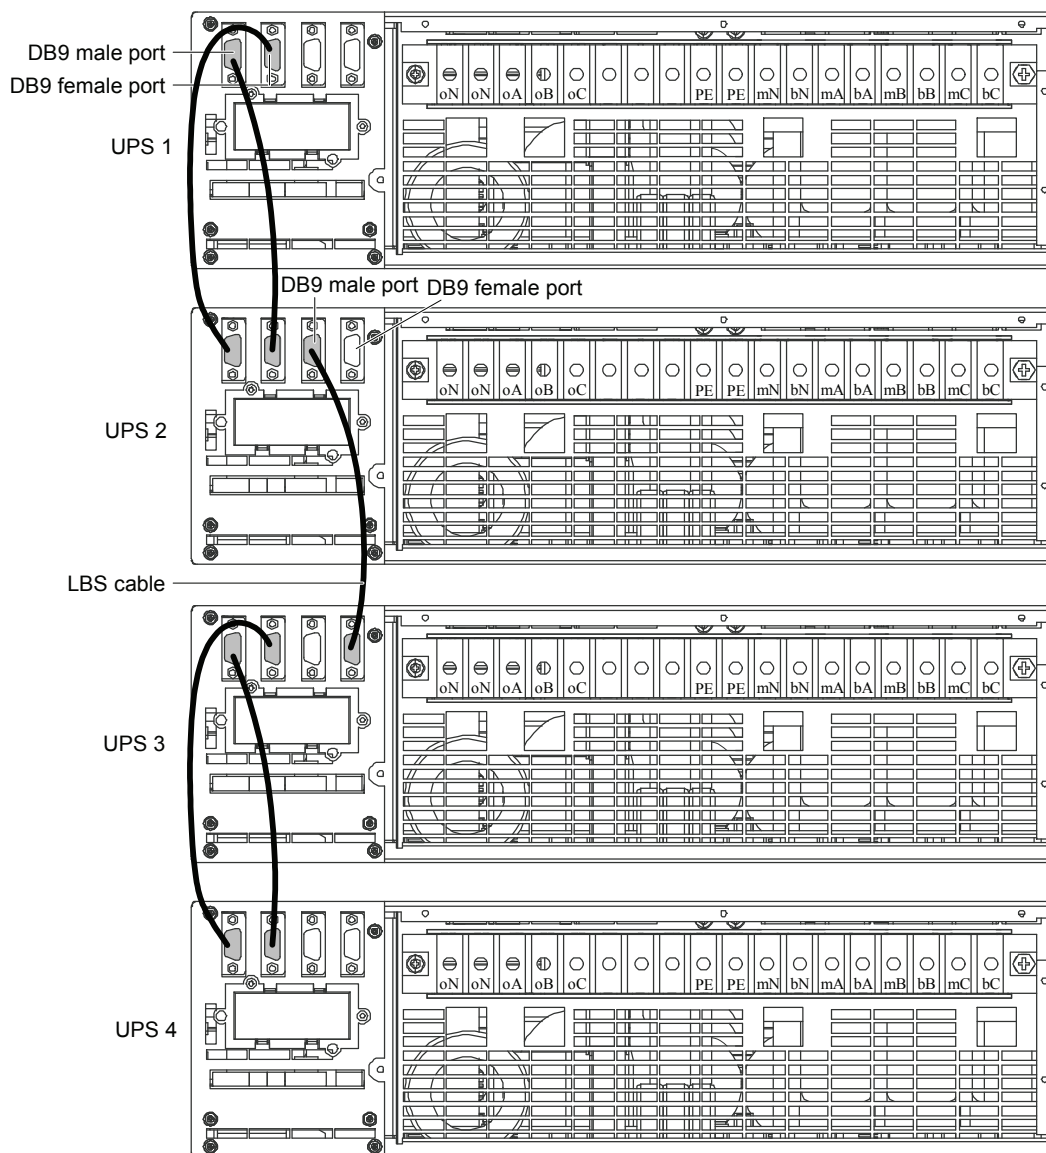

Figure 3-10 LBS cable connection
In double bus system, connect the two ends of the LBS cable to any LBS port of the two parallel systems respectively, as shown in Figure 3-10. The third port on the left is DB9 male port (needle shape), the fourth port on the left is DB9 female (hole shape).
3. As shown in Figure 3-10, one cable is LBS cable, others are parallel cables.